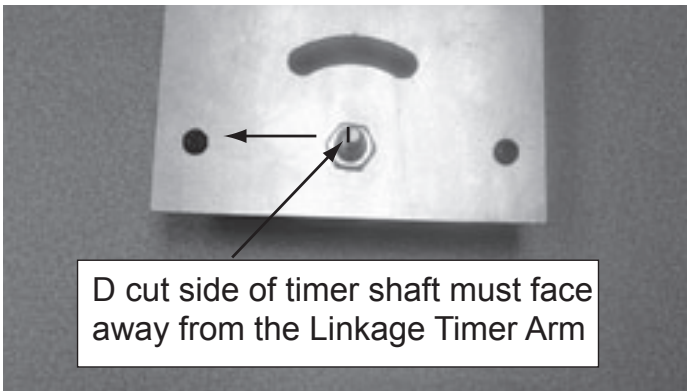

Figure 4.32 D Cut on Shaft
8. Install new timer using same two screws. It is very important that the D cut side of the timer shaft is facing the opposite side of the linkage timer arm. See Figure 4.32.